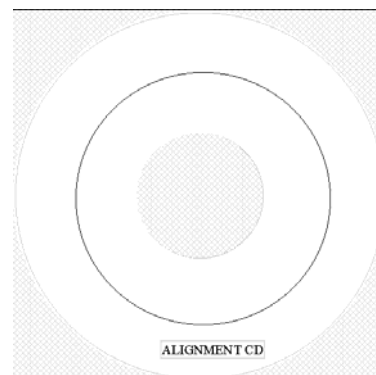

Figure 1
1. Place an Alignment CD (see figure 1) in the input bin.